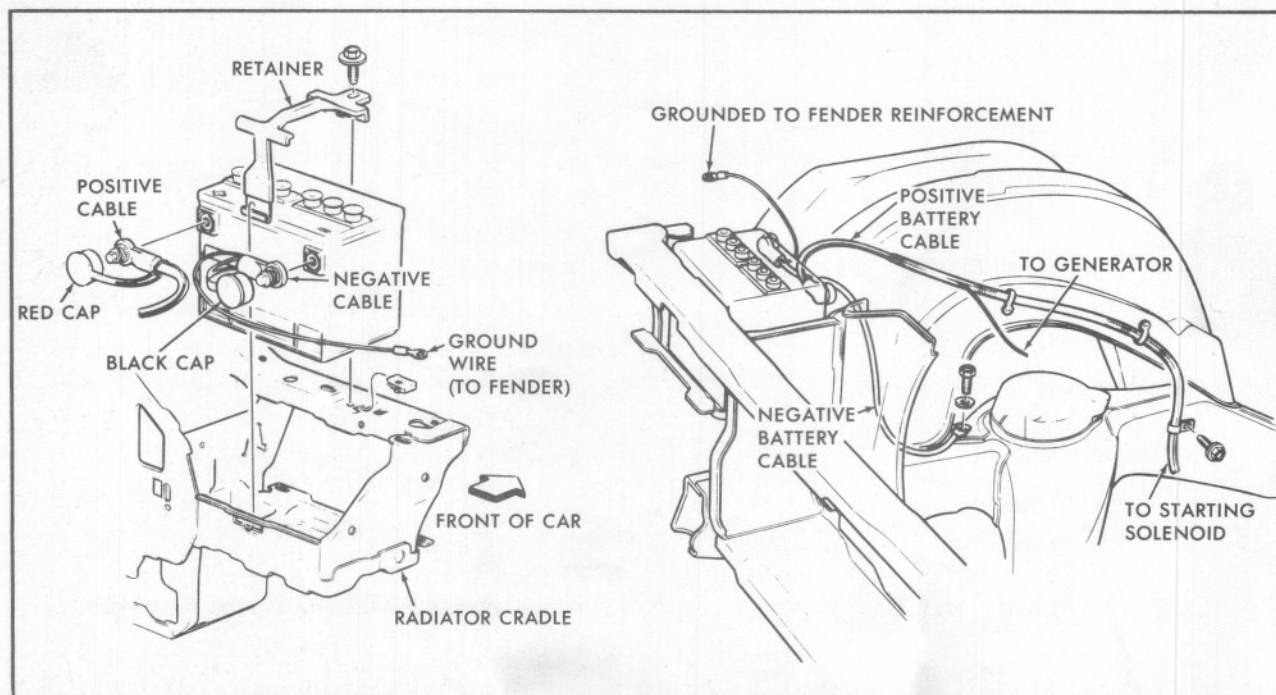

Fig. 6-3 Battery and Cables
- b. The method of retaining the battery in position to the right side of the new radiator cradle is by a plastic covered hold-down, Fig. 6-3.